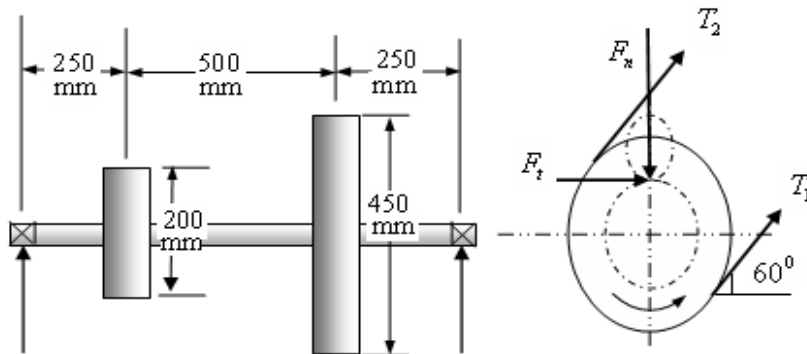

Figure-7.4
- 7 A machine shaft turning at 600 rev/min, is supported on bearings 1000 mm apart as shown in figure-7.4. 15 KW is supplied to the shaft through a 450 mm pulley located 250 mm to the left of the right bearing. The power is transmitted from the shaft through a 200 mm spur gear located 250 mm to the right of the left hand bearing. The belt drive is at angle of 60° above the horizontal. The pulley weighs 800 N to provide some flywheel effect. The ratio of the belt tensions is 3:1. The gear has a 20° tooth form and mates with another gear located directly above the shaft. If the shaft material selected has an ultimate strength of 500 MN/m^2 and a yield point of 310 MN/m^2 determine the necessary diameter using the shock and fatigue factors as $K_b = 1.5$ and $K_t = 1.0$ in bending and torsion respectively.